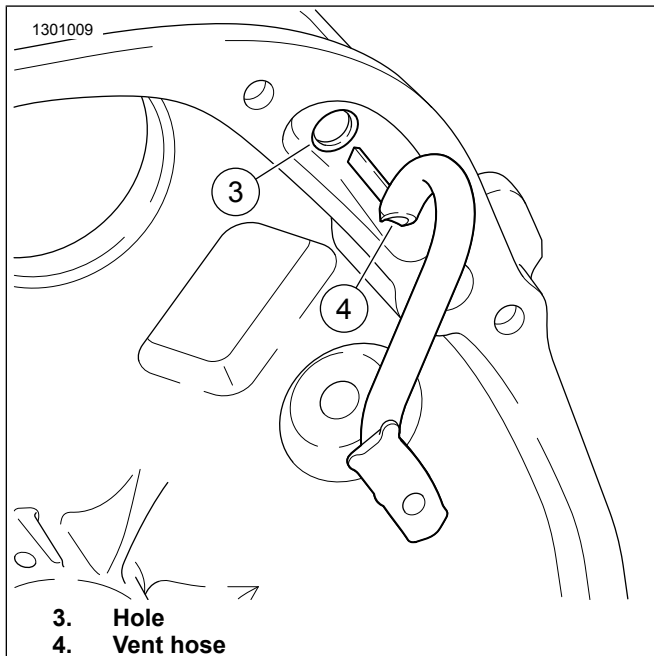

Figure 3. Install Vent Hose
2. See Figure 3. Carefully install and route vent hose (4) through case hole (3). Avoid cutting hose during installation.